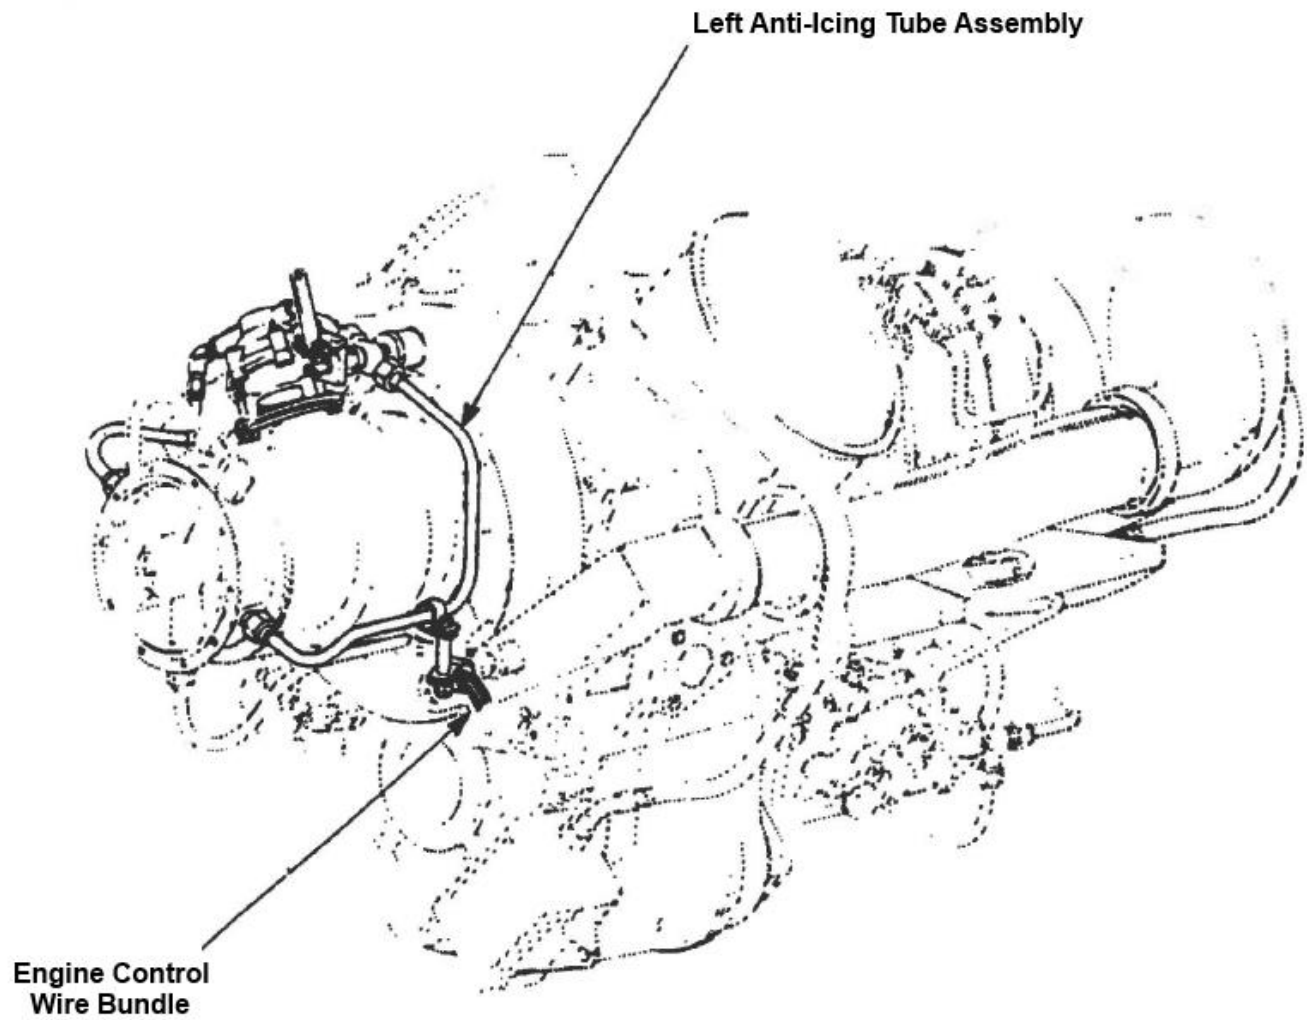

FIGURE 2: Optimum Location of Engine Control Wire Bundle on Left Anti-Icing Tube Assembly
- g. Refer to Figure 2. Loosen the wire clamp holding the engine control wire bundle to the left-hand anti-icing tube assembly shown in Figure 2. Slide the clamp aft as far as necessary to ensure that wires will not contact the rim of the KAFlex Rotor Brake Disk. Verify that adequate wire slack still exists, and tighten clamp in the new position.